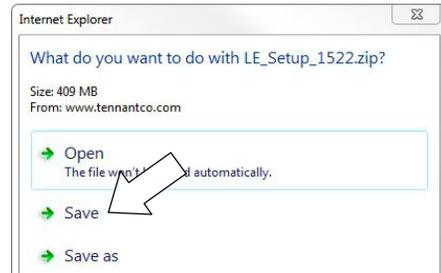

Fig. 41
3. Within the Service Application Software page, click on the link titled “Service Diagnostics LE version 1.5.22” or later to download the application installer then click the Save button (Figure 41).